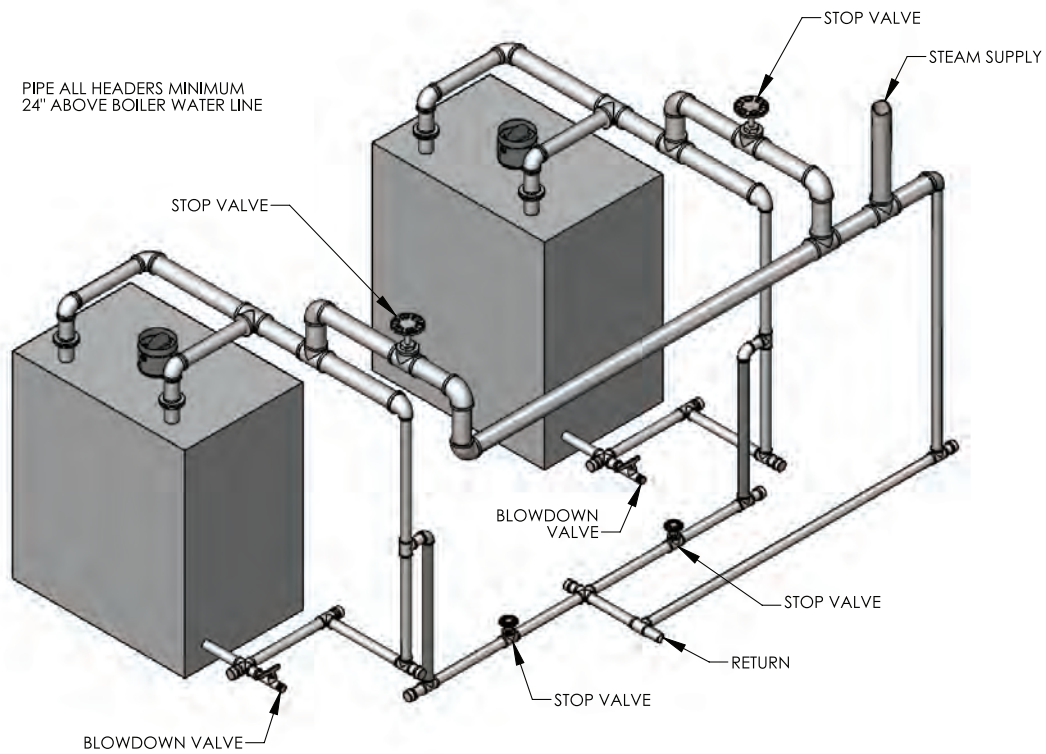

Figure 4.1: Piping Multiple Boilers, Typical, Gravity Return Systems.
1. Figure 4.1 shows typical piping for multiple boiler Gravity Return systems. Figure 4.2 shows typical piping for multiple boiler Pumped Return systems.